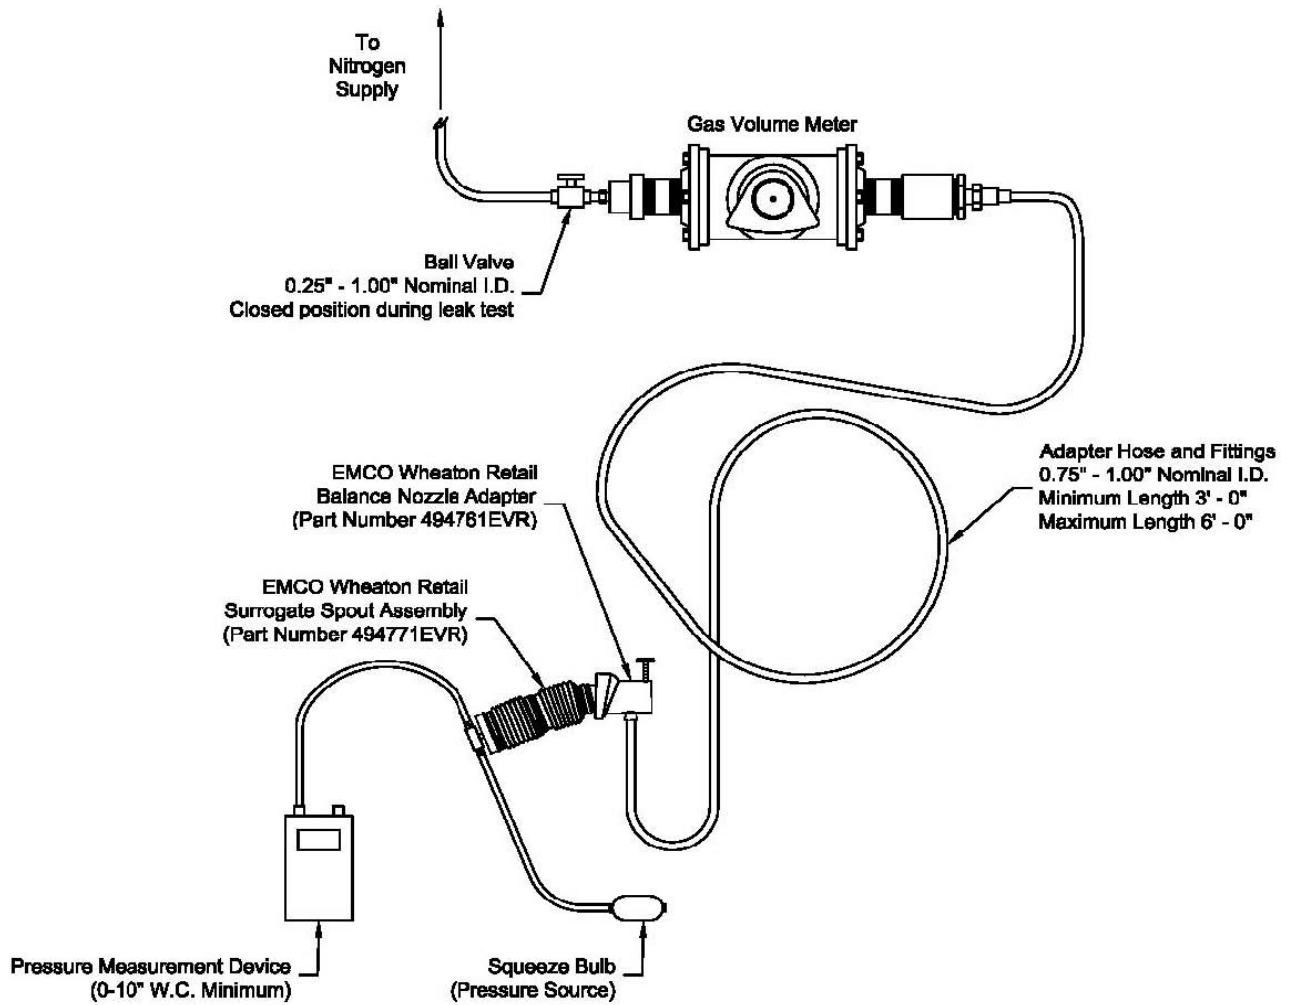
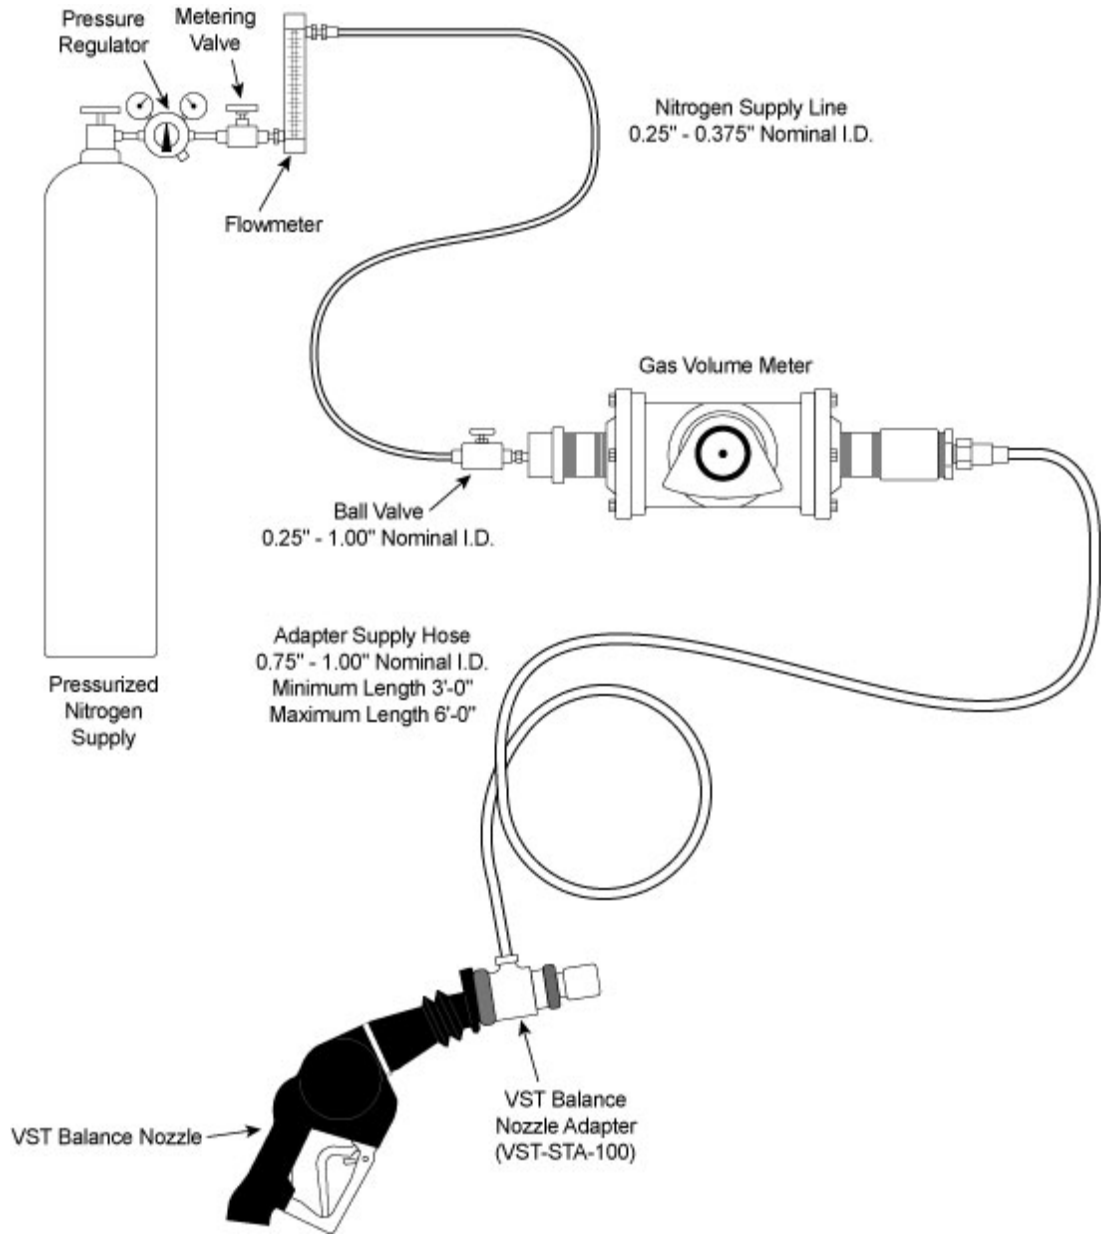

Figure 3
Figure 4
- 6.4 Assemble the equipment as shown in Figure 3 (VST) and Figure 4 (EMCO): INCON ISD System Vapor Flow Meter Test Assembly. Leave the Balance Nozzle Adapter off of the nozzle at this time. Do not enable the dispenser to dispense product. Remove nozzle and utilize any method to keep the nozzle hook in the off position.
- 7.6 Install the Balance Nozzle Adapter on the appropriate nozzle as shown in Figure 3 (VST) and Figure 4 (EMCO). Apply appropriate amount of lubricant to the O-rings located inside the Balance Nozzle Adapter. Lubricant can also be applied to the nozzle spout and the face seal or boot face (rubber boot) of the nozzle and the back of the Balance Nozzle Adapter if necessary.